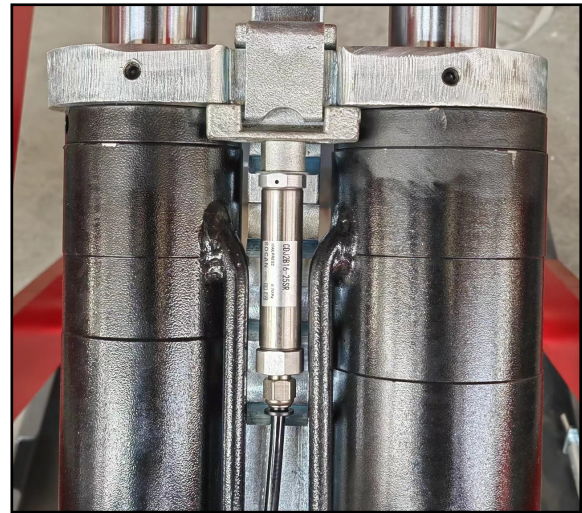

Fig. 20
- Follow air loop diagram to lead the compressed air pipe out from pneumatic electromagnetic valve and then connect it to the uplifted-pawl air valve. (Fig. 20)